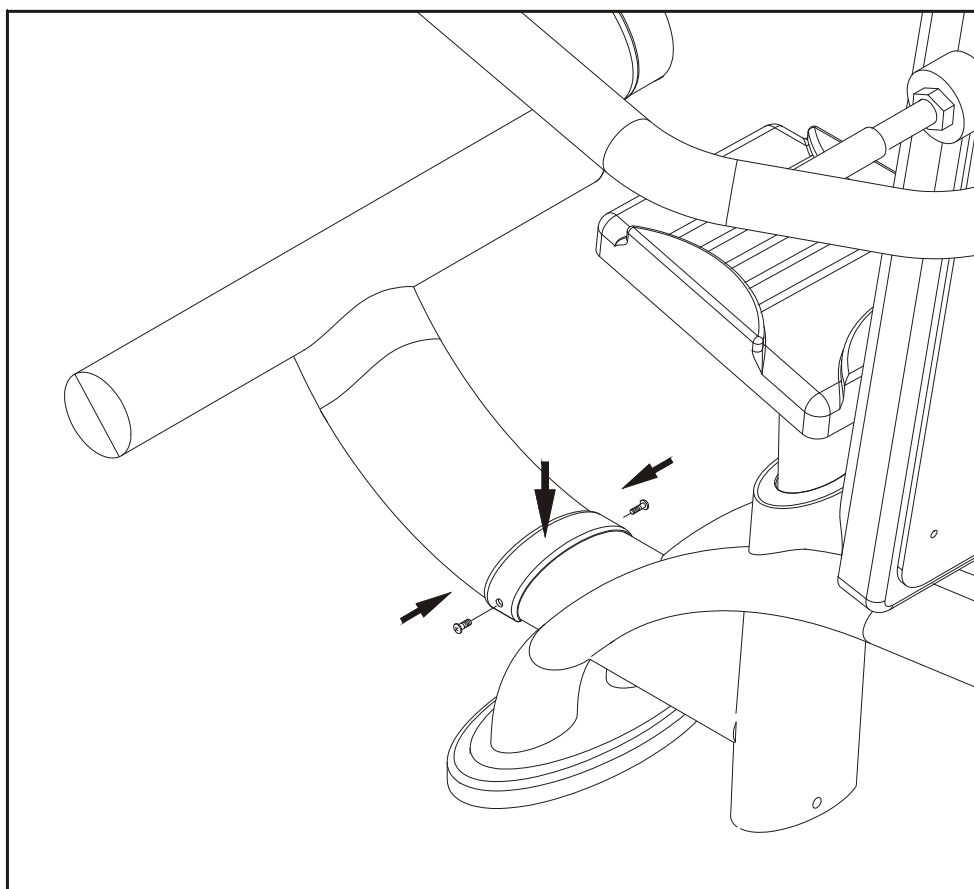

Fig.5
6. Secure the trimming with screws provided (item 17). (See Fig.5)